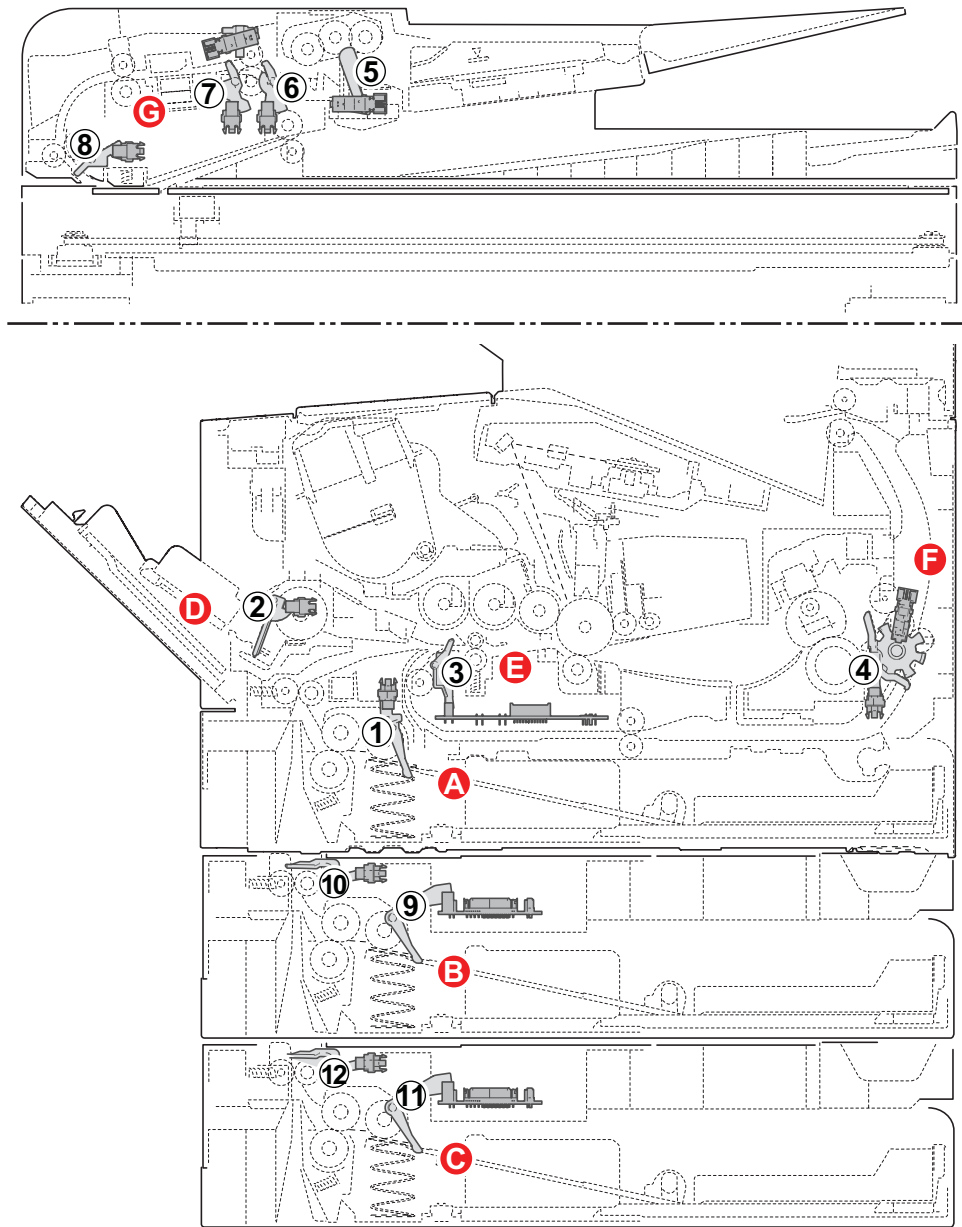

Figure 7-2
* Refer to figure 7-2 for the paper JAM indication (see page 7-8).
(4) First check item